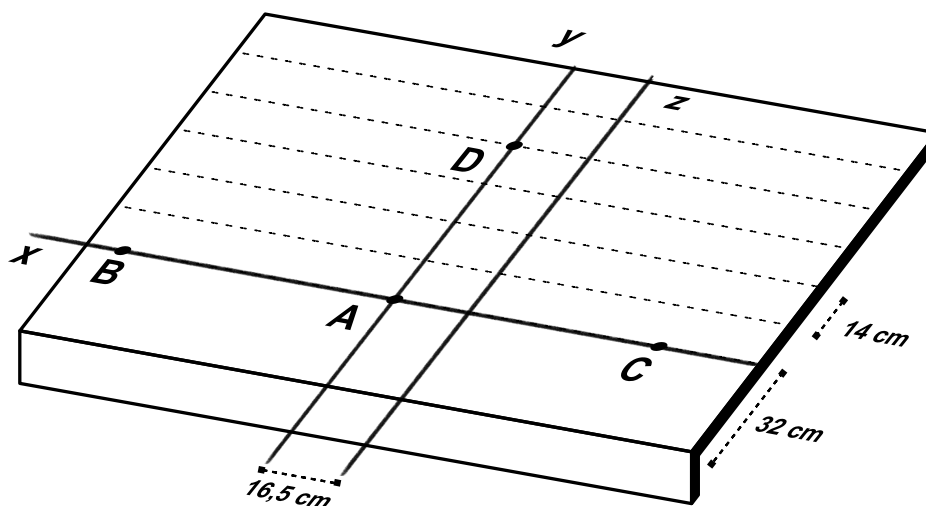

Fig. 3 - Tracing of the pitch [cm]
- Draw horizontal lines parallel to **x**, each one distant 14 cm from the previous, until you reach the ridge - see Fig. 3.